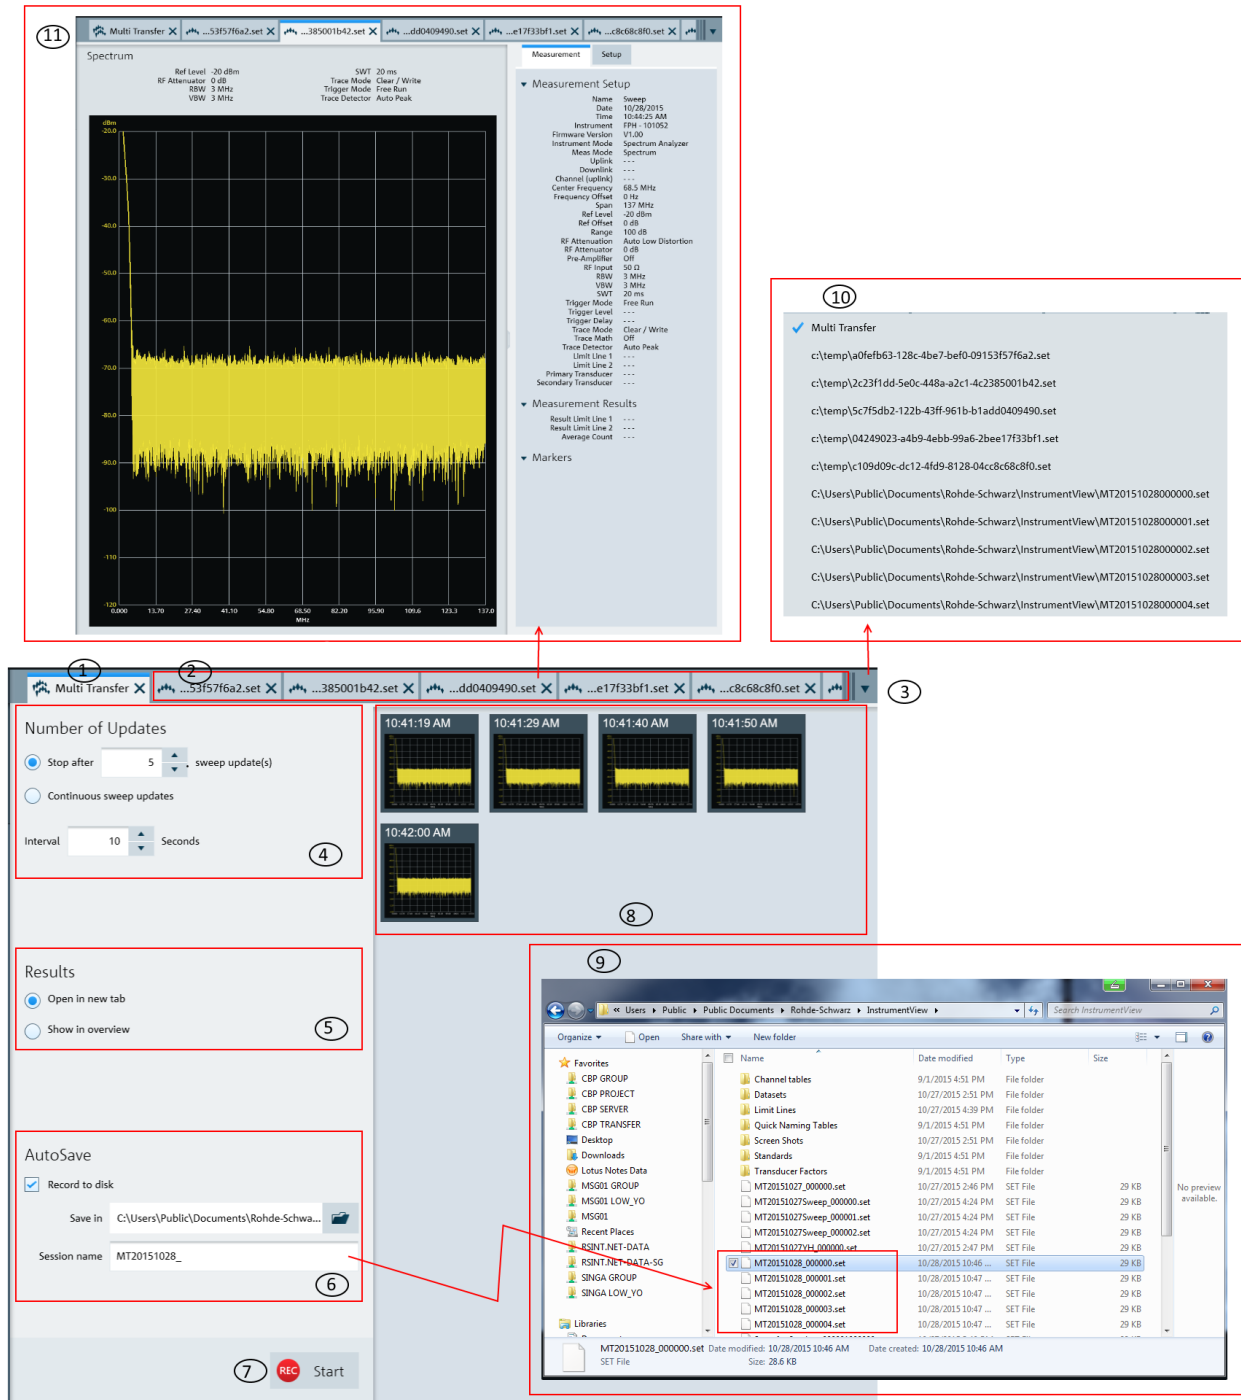

Figure 5-18: Multi-transfer dialog
"View" 	Views the details of the trace measurement file. For viewing, see Chapter 4.3, "Save instrument" , on page 24 for a list of file format supported. When a file is selected to be viewed, a tab is displayed in the header bar of the screen layout. See index 11 of Figure 5-18 .
The "Multi Transfer" menu allows you to capture and save trace measurements from the instrument. See Figure 5-18.
- 2 = Measurement results tab (see index 11 in Figure 5-18)
- The trace measurement in the overview area. See index 8 in Figure 5-18.
- The individual trace measurement result in the "Tab header bar". See index 2 in Figure 5-18.
See index 11 in Figure 5-18.
See index 9 in Figure 5-18 to view the trace measurements captured in the file directory.
Depending on the setting in the "Results" section (see index 5 in Figure 5-18), the trace measurement updates can be displayed in the overview area (see index 8 in Figure 5-18) or individually displayed as a new tab in the tab header bar (see index 2 in Figure 5-18).